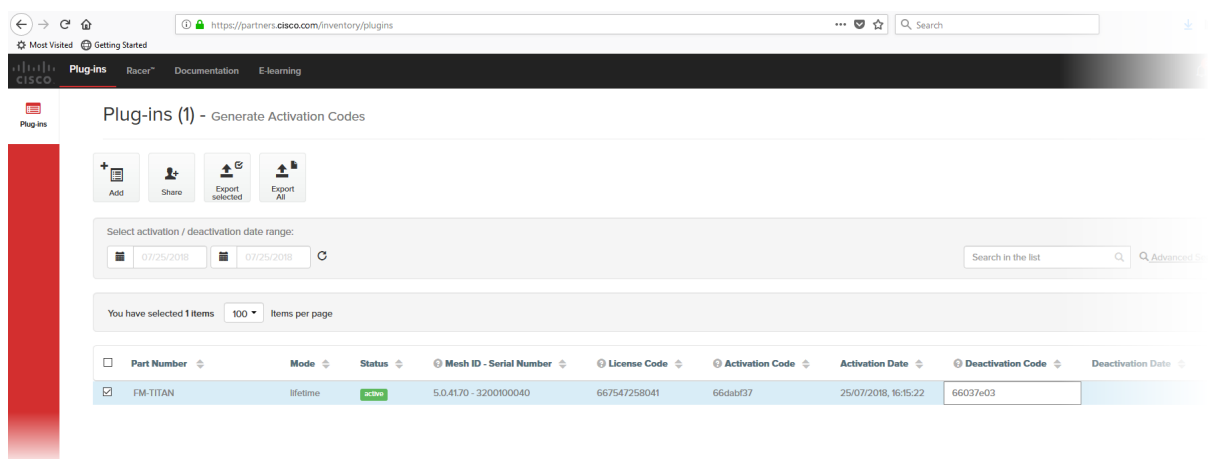

Figure 64. Partner Portal Plug-ins page (deactivation code entry)
8. Enter the Deactivation code for the plug-in in the Deactivation Code field (Figure 64 (page 119)).